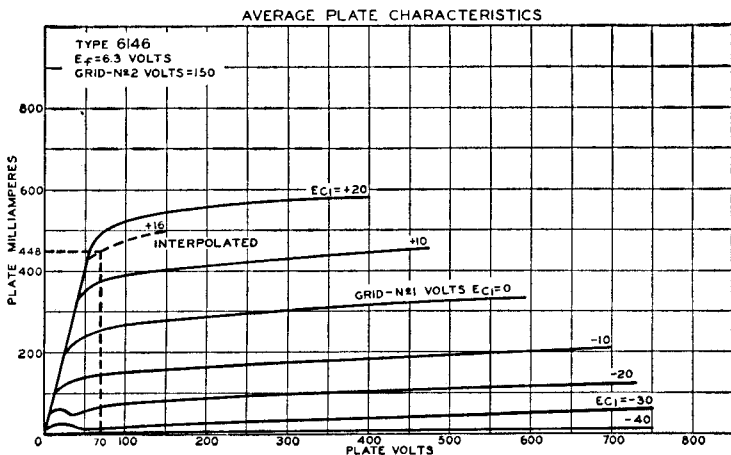

Fig. 44
(3) From the plate family for the 6146 given in Fig. 44 ( $E_{c2}=150$  volts), a suitable value for effective minimum plate voltage ( $e_{b\min}$ ) to the right of the "knee" is 70 volts. The corresponding peak positive grid-No.1 voltage ( $e_{c1\max}$ , determined from  $E_{c1}$  curves) for a peak plate current of 448 milliamperes is approximately +16 volts.
(4) From Table I,  $K_2$  for a conduction angle of 140 degrees is 0.862. Therefore, power output ( $P_o$ ) = 0.862  $\times$  (600-70)  $\times$  0.112 = 51 watts.
(5) Plate dissipation ( $P_p$ ) = (600  $\times$  0.112) - 51 = 16.2 watts. This value is well within the maximum plate-dissipation rating of the 6146 for class C telegraphy under CCS conditions (20 watts).
(6) The dc grid-No.1 or bias voltage ( $E_{c1}$ ) and peak rf grid-No.1 voltage ( $E_{g1}$ ) are calculated next. (Note that bias voltage  $E_{c1}$  is not the  $E_{c1}$  shown in the characteristics curves, which represents total grid voltage, i.e., the algebraic sum of the bias  $E_{c1}$  and peak rf grid-No.1 voltage  $e_{c1\max}$ ). From table I,  $K_3$  and  $K_4$  for a conduction angle of 140 degrees are, respectively, 0.520 and 1.520. From the technical data for the 6146, mu-factor ( $\mu_{g2g1}$ ) is 4.5. Therefore,